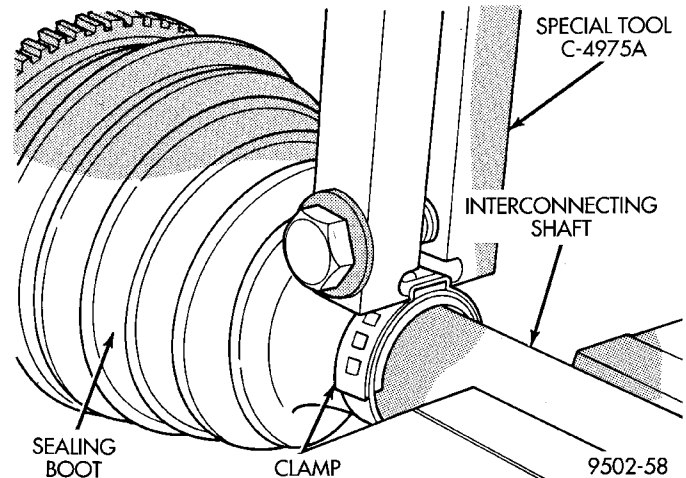
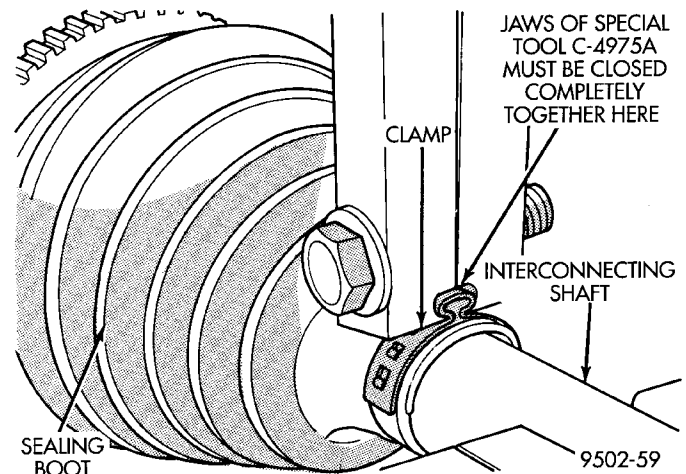

Fig. 50 Crimping Tool Installed on Sealing Boot Clamp
Fig. 51 Sealing Boot Retaining Clamp Installed
(5) Distribute 1/2 the amount of grease provided in seal boot service package (DO NOT USE ANY OTHER TYPE OF GREASE) into outer C/V joint assembly housing. Put the remaining amount into the sealing boot.
(6) Install outer C/V joint sealing boot to interconnecting shaft clamp evenly on sealing boot.
(7) Clamp sealing boot onto interconnecting shaft using crimper, Special Tool C-4975-A and the following procedure. Place crimping tool C- 4975-A over bridge of clamp (Fig. 50). Tighten nut on crimping tool C- 4975-A until jaws on tool are closed completely together, face to face (Fig. 51).